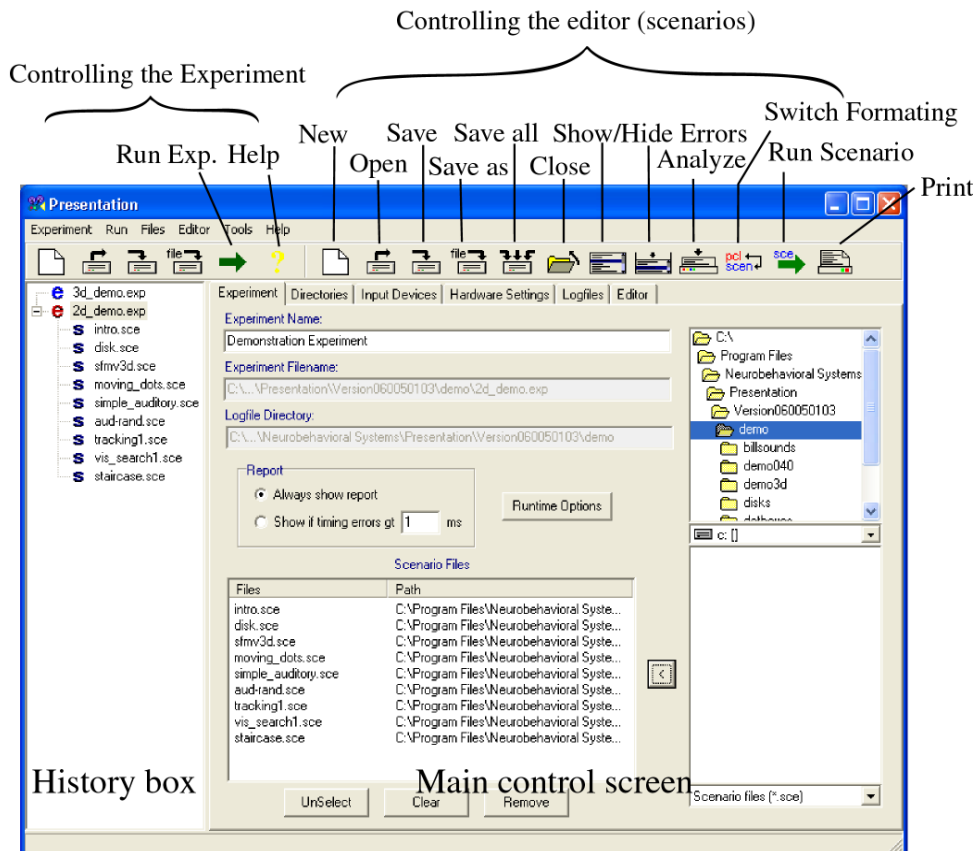

Figure 1 Presentation’s user interface.
In Presentation, experiments include all the information needed in stimulation (see section 3.1.2). An experiment consists of the settings made on the main control screen (Figure 1). On Experiment tab you can include scenarios in your experiment (sections 3.1.1 and 3.1.3). Scenario files are text descriptions of sequences of actions that are performed without interruption. Scenarios describe how the stimuli are presented (duration, order, interstimulus interval etc.). You can use templates and PCL files in your scenarios (sections 3.1.3 and 3.1.4).
Presentation has a graphical user interface (GUI; Figure 1). It is divided into two main sections: on the left side “the experiment history box”, and on the right side “the main control screen”. To clear the history box, choose Clear History from the Experiment submenu. With the buttons above “the history box”, you can e.g. open and save experiments. The buttons above the main control screen are meant for scenarios when using the Presentation’s own editor (Figure 1).
- **Editor tab:** Presentation's own editor. Practical in *writing scenarios*. The buttons above the main control screen operate the editor (see Figure 1).
An experiment consists of one or more scenarios and hardware, directory, and logfile settings. The hardware configurations are made on the tabs of the main control screen (see Figure 1) where you can also select the scenarios included in the experiment. If you highlight some of the scenarios selected, only those are shown when executing the experiment. Note that when you save an experiment all the settings made on the main control screen are saved, but the possible changes made to the included scenarios are not! You will have to save your scenarios with the buttons above the main control screen.